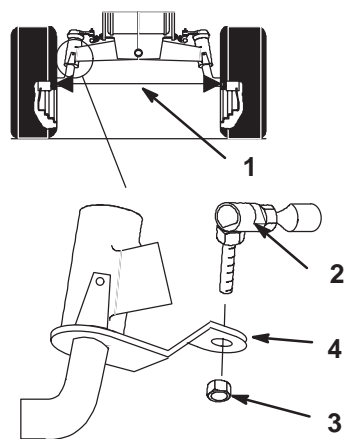

Figure 34
Maintain toe-in of the front wheels as specified. If uneven tire wear, lawn scuffing or hard steering develop adjustment may be required. Check the toe-in after every 100 operating hours or yearly, whichever occurs first (Fig. 34).
3. Measure, between the rims, at spindle level, in the front and rear of the wheels (Fig. 34).
2. Remove ball joint from one steering lever (Fig. 34).